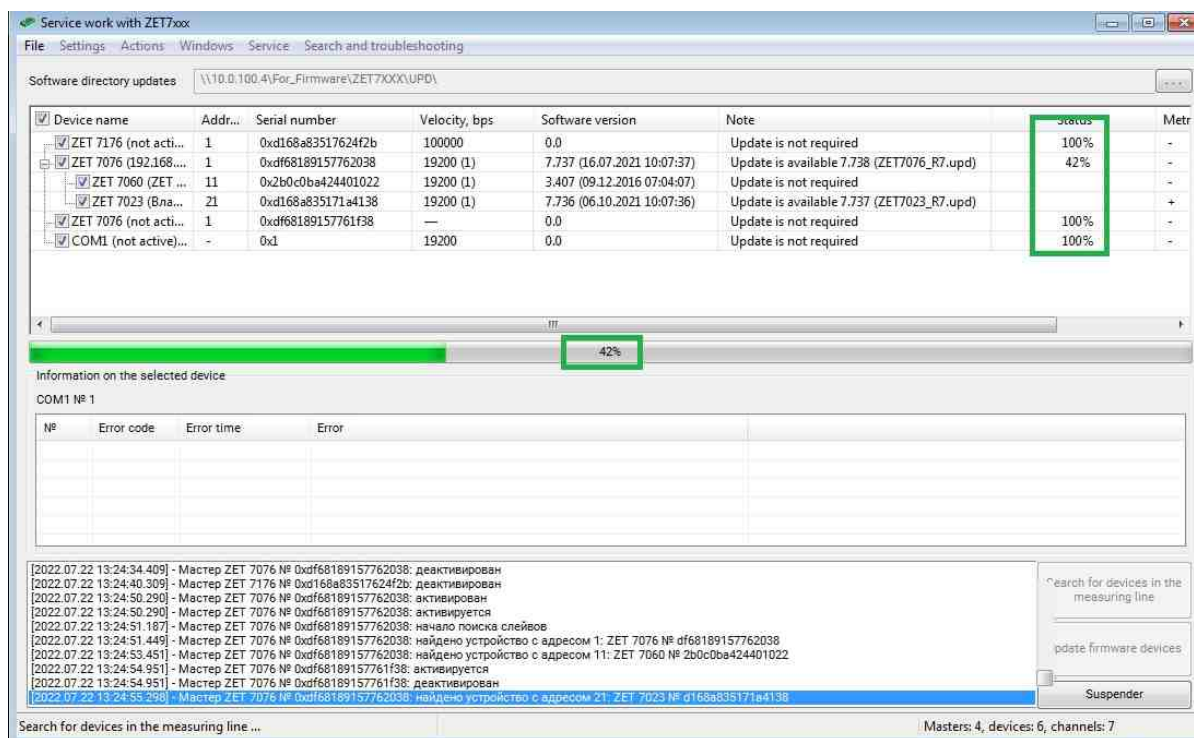

Fig.6.5 Digital sensor firmware update process status
5. The Status column displays the current status of the firmware update process (Fig.6.5). You should wait until the software update of the digital sensor is completed, and if necessary, follow the instructions of the program.